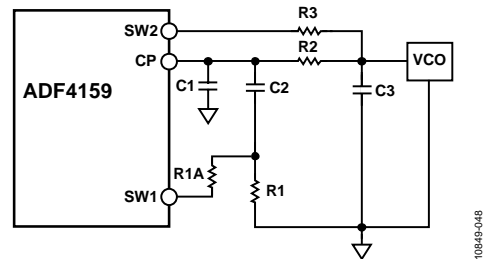

Figure 54. Fast Lock Loop Filter Topology 2
- Connect an extra resistor (R1A) directly from SW1 (see Figure 54). The extra resistor must be selected such that the parallel combination of an extra resistor and the damping resistor (R1) is reduced to  $1/4$  of the original value of R1.